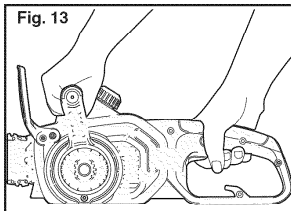

Fig. 13
3. Use both hands to grip saw. Always use left hand to grip **Front Handle** and right hand to grip **Rear Handle**. Use a firm grip. Thumbs and fingers must wrap around saw handles (See Fig. 13).
5. When ready to make a cut, push the Lock-off Button (3) completely in with the right thumb and squeeze the trigger. This will turn saw on. Releasing the trigger will turn the saw off. Make sure the saw is running at full speed before starting a cut.
8. Remove the saw from a cut with the saw running at full speed. Stop the saw by releasing the On/off Switch (2). Make sure the chain has stopped before setting the saw down.